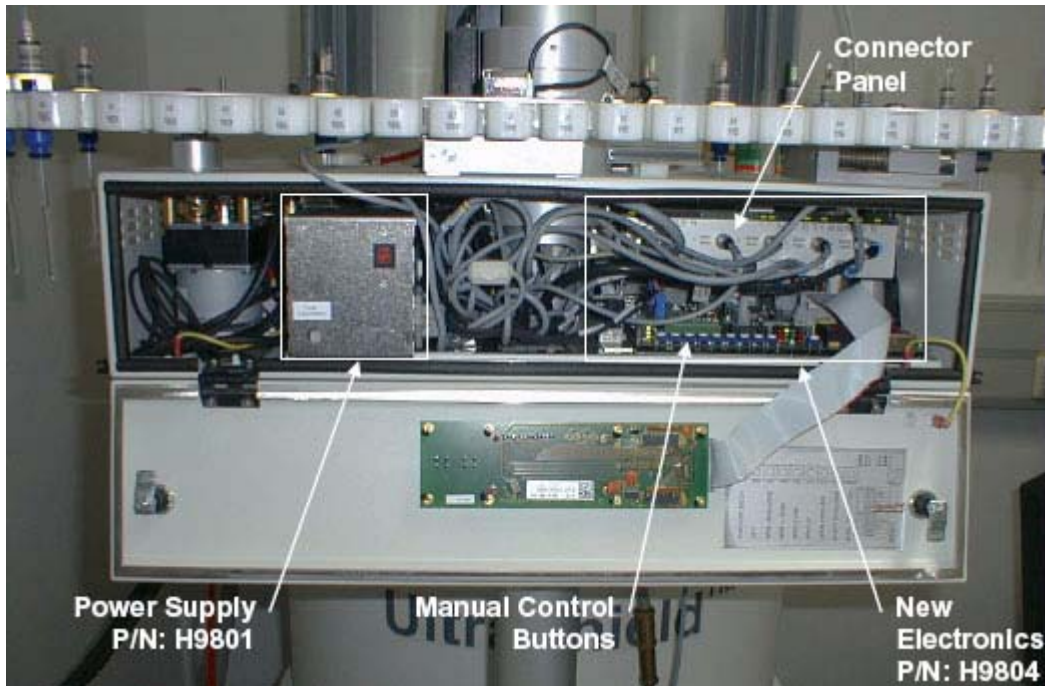

Figure 2.5. *New Electronics in New B-ACS Housing*
- Manual motion control when using new electronics without a Motor & Valve Control board. In this case the 15-pin D-Sub connector to the valve block is connected to the connector panel (see Figure 2.5).
This step is for systems which contain the new electronics, without a Motor & Valve Control Board (see Figure 2.5). The 15pin D-subconnector to the valve block is connected to the connector panel. It is possible to manually operate the motion either with the front panel open or closed.